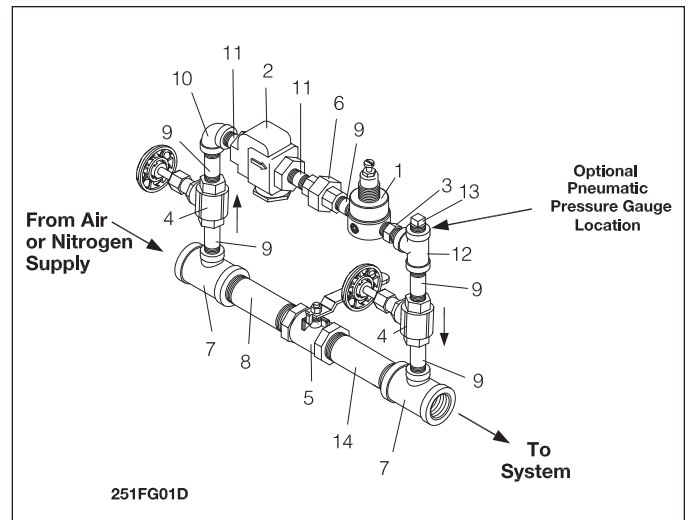

Figure 1
• **Model A-2 Pressure Maintenance Device (Refer to Figure 1)**
Basic functionality of components (refer to Figure 1): The strainer's (Item 2) function is to prevent any foreign matter that may be present in the air supply, from traveling to the regulator (Item 1) and the check valve (Item 3), thereby ensuring their normal operation. The check valve's function is to prevent the reverse flow of water resulting from a dry pipe or deluge valve's operation, from reaching the regulator. The globe valves (Item 4) allow for the servicing (if needed) of the strainer (Item 2) and regulator (Item 1) without having to shut down the sprinkler system. The ball valve (Item 5) permits the rapid restoration (quick-fill) of the required system air pressure after service or operation. The ball valve (Item 5) must be closed and the globe valves (Item 4) must be open for proper automatic operation.
The pressure regulator (Item 1) is factory set to maintain a nominal system air or nitrogen pressure of 30 psi (2,1 bar). In order to change the outlet pressure, loosen the locknut at the top of regulator and turn the adjustment screw clockwise to increase pressure. To decrease the pressure, turn the adjusting screw counter clockwise. The resulting pressure can be determined at the sprinkler system air gauge once the air flow through the device has ceased, or at the optional gauge location. Shown on Figure 1.
Refer to Figures 1 & 2.
- a. Make sure the air flow through the Pressure Maintenance Device is as shown by the arrows in Figures 1, 4, 6, 8, 9 and 11-13.